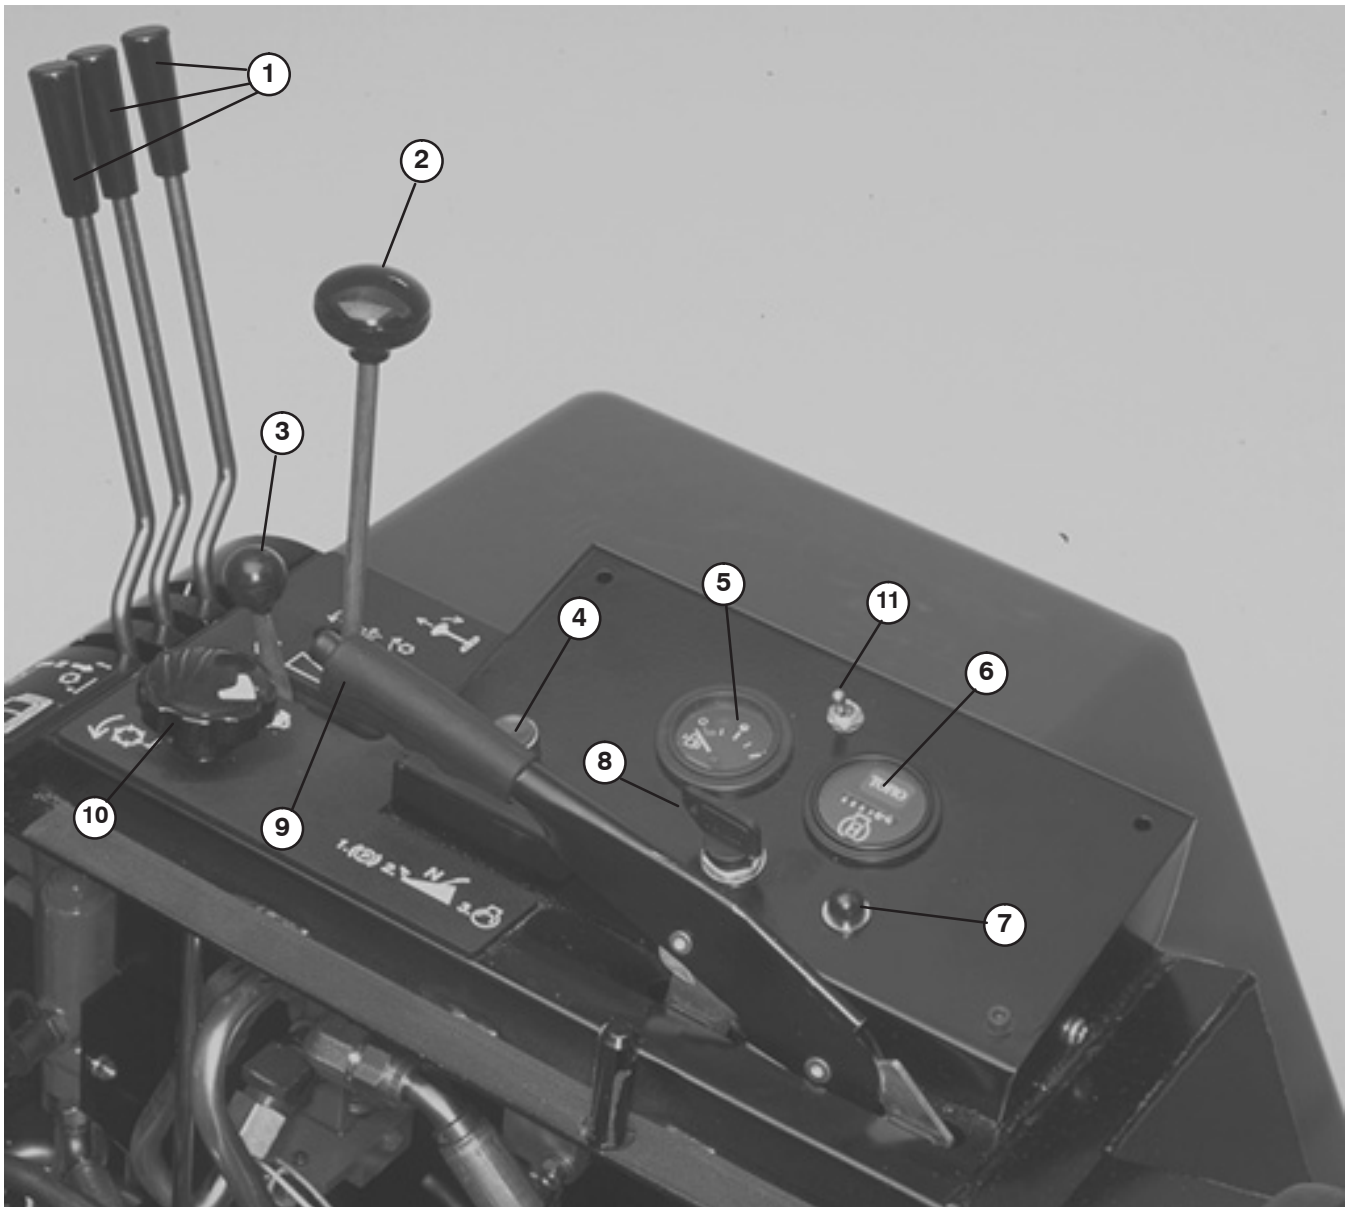

Figure 13
The two outside levers (Fig. 13) raise and lower the two outside cutting units. The center lever raises and lowers the two front and the center cutting units. Engine must be running to lower cutting units. When cutting units are lifted, reels automatically stop. Do not allow levers to snap-back to neutral, or cutting units may not float freely.
When button (Fig. 13) is depressed, engine can be operated after it has over heated and automatically been stopped by the electrical safety system. Use only for short intervals.
Gauge (Fig. 13) indicates amount of fuel in tank.
Hour meter (Fig. 13) indicates total hours that machine has been operated.
Light (Fig. 13) turns on when key is moved to ON position. Glow plugs engage for 10 seconds, then, light goes off when engine is ready to start.
Three positions: OFF, ON and START. Rotate key (Fig. 13) to START and release key when engine begins running. To stop engine, rotate key to OFF.
Pull lever (Fig. 13) up to lock brake. To release brake, pull up on lever, press button and lower lever. Brake must be engaged to start engine. Always engage parking brake before getting off seat.
Move lever (Fig. 13) forward to engage cutting units. Move lever to the center to stop the cutting units. To backlap cutting units, lift lever over stop and hold in the rear position.
Rotate knob (Fig. 13) clockwise to increase reel speed, counter-clockwise to decrease speed. Use in conjunction with the ground speed limiter to achieve appropriate rate of clip.
Move control (Fig. 13) forward to increase engine speed, backward to decrease speed.
Move switch (Fig. 13) forward to engage 4 wheel drive. Move switch to rear position to disengage 4 wheel drive. (4 wheel drive model only)
1. Sit on the seat, keep foot off traction pedal. Assure parking brake is engaged (Fig. 13). Traction pedal and mow/backlap lever must be in neutral.
2. Sit on the seat and engage parking brake (Fig. 13). Turn key and try to start engine with Mow–Backlap lever (Fig. 13) in both the MOW and BACKLAP positions. If engine cranks, there is a malfunction that must be repaired immediately. If engine does not crank, the cutting unit drive switch is operating properly.
If a warning light comes on during operation, stop the machine immediately and correct the problem before continuing operation. Serious damage could occur if the machine is operated with a malfunction. For short intervals, however, the emergency engine override button (Fig. 13) can be used to operate the engine if it stops because of overheating.